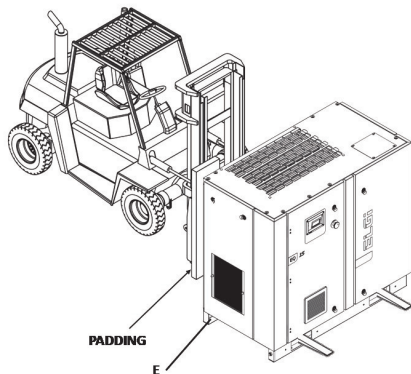
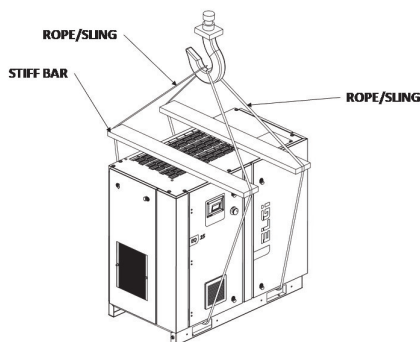

Figure 2. Lifting using forklift
Figure 3. Lifting using crane
- Lifted compressors using either a forklift /pallet truck (Fig.2) or a crane (Fig.3).
- When using a forklift, ensure padding is used in between the compressor and forklift (as shown in Fig.2) to prevent damage to the compressor's canopy.
- When using a crane, please ensure stiff spreader bars are used (as shown in Fig.3) to prevent rope slings from damaging the compressor's canopy.